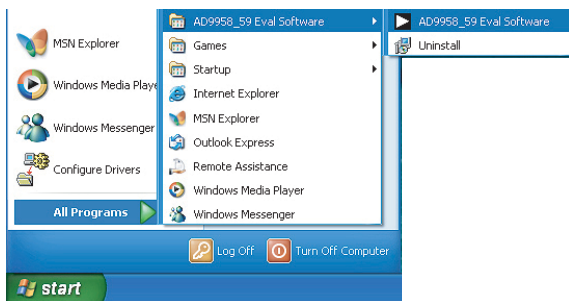

Figure 13.
3. Select **Programs**, then the **AD9958_59 Eval Software** folder, and then **AD9958_59 Eval Software** to load the software (see Figure 13).